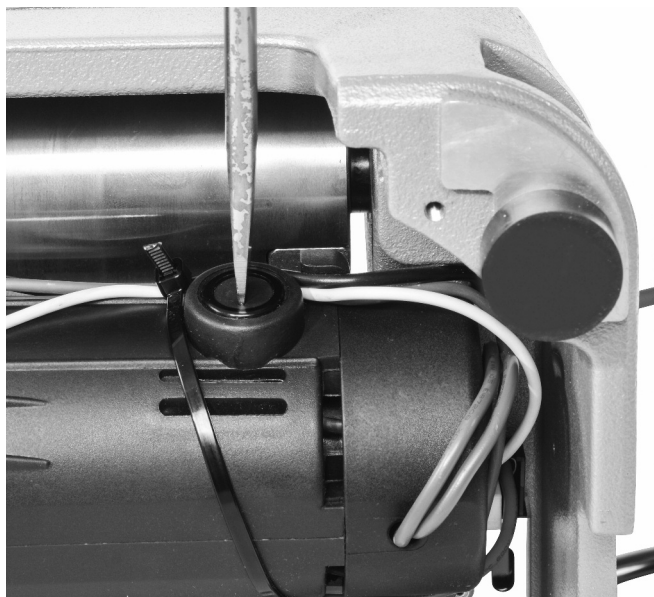
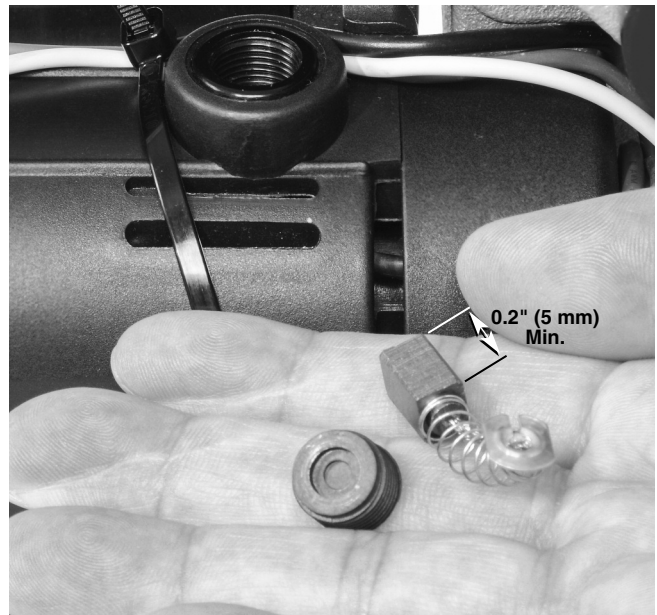

Figure 17 – Removing Brush Cap
Figure 18 – Inspect Brush Length
3. Use a screwdriver to unscrew and remove the brush caps (*Figure 17*). Gently remove the carbon brushes and check the length (*Figure 18*). If brush length is less than 5mm (0.2"), change brushes.